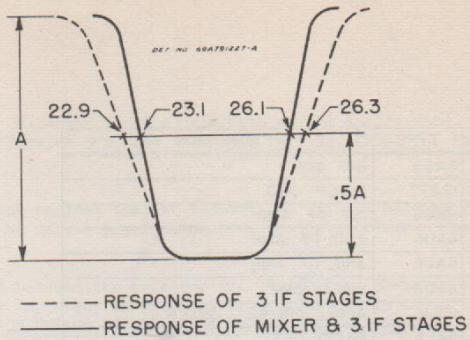

FIGURE 6. IF & MIXER RESPONSE CURVES
9. Adjust the 1st IF coil, L-10, to place a 26.3 mc marker signal 50% (1/2) the way up the high side of the response waveform. Refer to Figure 6 for marker positions on waveform obtained.
NOTE: It may be necessary to repeat the procedure to obtain the proper waveform. See Figure 6.
12. Bring both cores of transformer T-9\*\*\* simultaneously from extreme outside positions toward the center until the 26.1 mc marker is 50% (1/2) way up the high frequency slope, and the 23.1 mc marker is 50% (1/2) way up the low frequency slope. Correct waveform is shown in Figure 6.
The bandwidth may be determined with an AM generator by doubling the input required to produce 1 volt at the video detector and tuning to each side of 24.6 mc until the meter again reads 1 volt. These frequencies correspond to the 6 db (50%) points on the skirts of the curve. The bandwidth will decrease from that shown in Figure 6 because the battery bias on the 1st IF tube has been removed, but the two 6 db points should be at least 2.3 mc apart. By making a plot of frequency versus voltage, the actual IF response curve may be traced out.